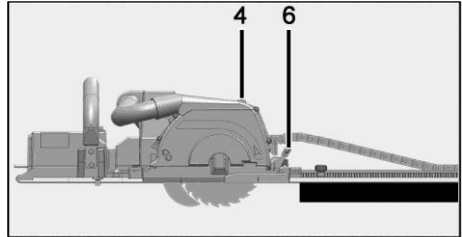

Fig. 15: Placing the machine onto the workpiece for ripping
- Stop the saw blade by pressing the clamping lever 6 (see Figure 15 on page 26) before returning the saw unit to its home position, in case you have interrupted the feed before reaching the stop slide.